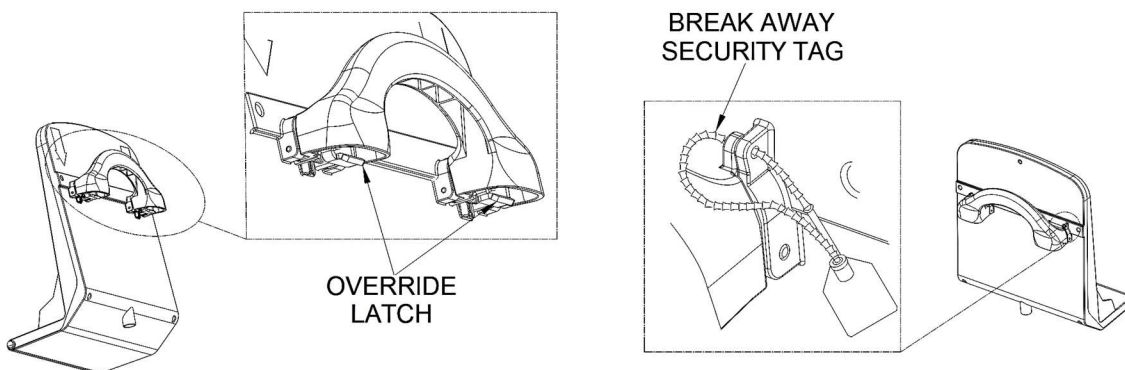

FIGURE 2
- B. To inspect Tray Assembly utilizing Override Latch. Override Latches are located on underside of handle (**Ref Figure 2**). Both latches must be fully depressed to allow tray to open.